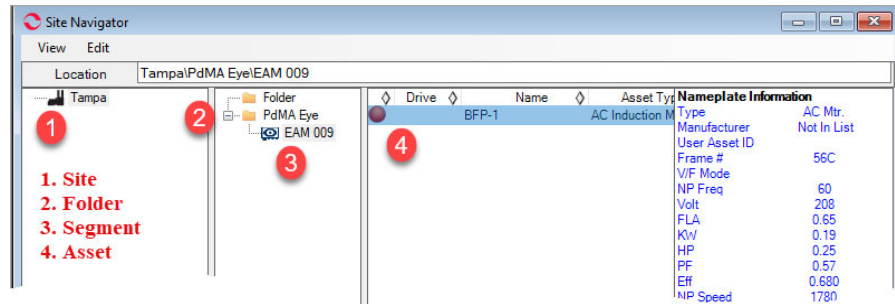

Figure 4: Site Navigator
The first step in setting up the PdMAEYE is to link the asset (4) to the segment (3). See Figure 4.
1. Right click on the segment (3).